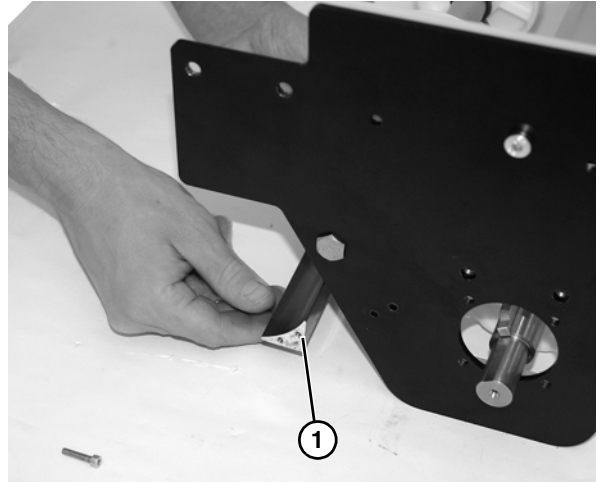

Figure 50
9. Remove guard (**Figure 50, item 1**).
*Note orientation of guard (**Figure 50, item 1**) before removing from end plates.*